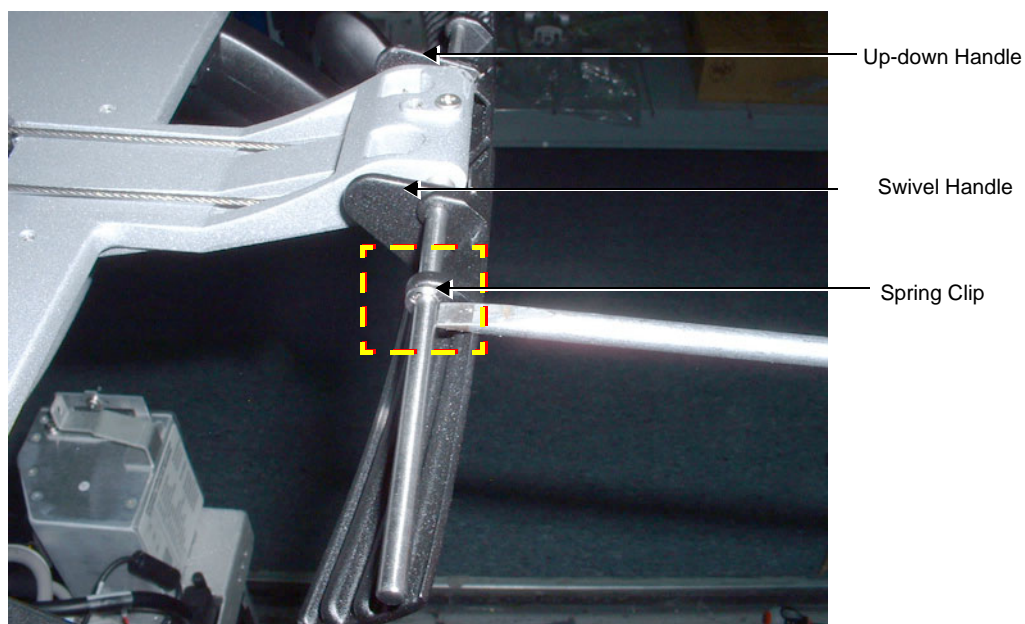

Figure 8-99 Removing Spring Clip that Secures the Swivel Handle
- 4.) Remove the spring clips securing the particular handle to be removed - Figure 8-99.